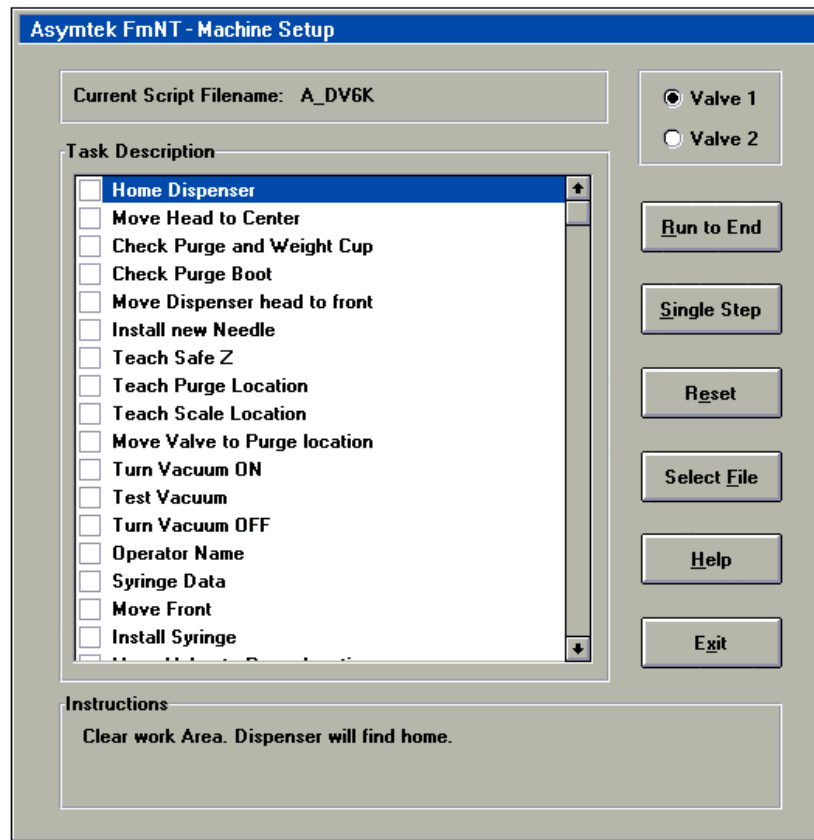

Figure 6-10
- ▶ The *scripted Prompted Setup* dialog box, shown in Figure 6-10, opens.